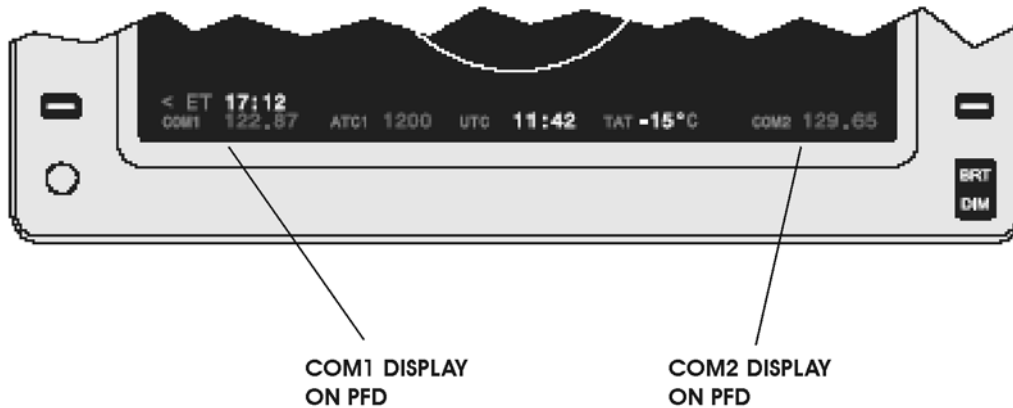

Fig. 6 - VHF COM1 and COM2 Display on PFD
- D. PFD - Primary Flight Display (Refer to Fig. 6)